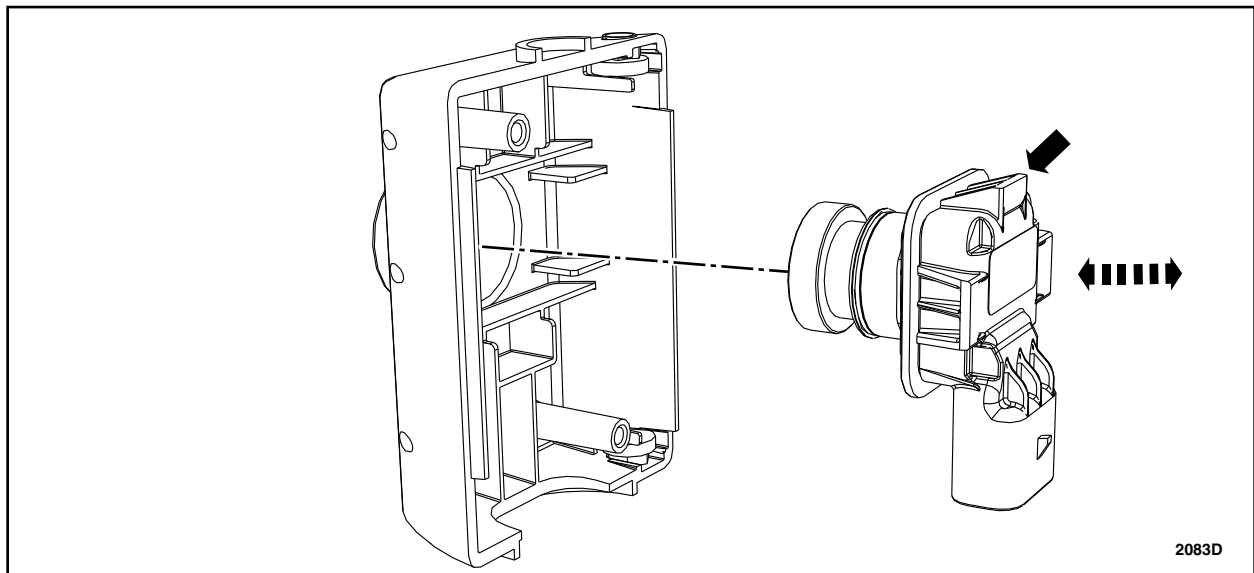

FIGURE 17
4. Paying close attention to the camera's orientation inside the housing, remove the original camera and install the replacement camera. See Figure 17.